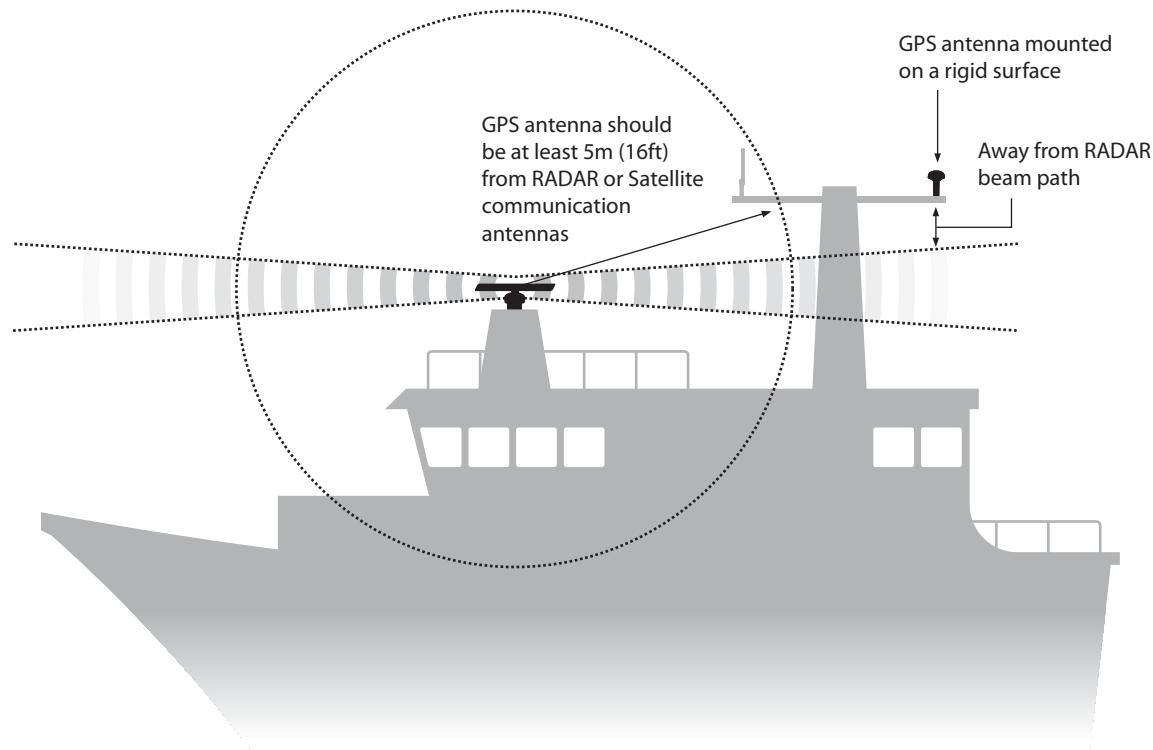

Figure 37 GPS antenna location
- The GPS antenna should be mounted as high as possible, however it is not recommended the antenna is mounted on a top of a high mast where the motion of the vessel will cause the antenna to swing and potentially reduce the accuracy of the GPS position. See Figure 37 for guidance.